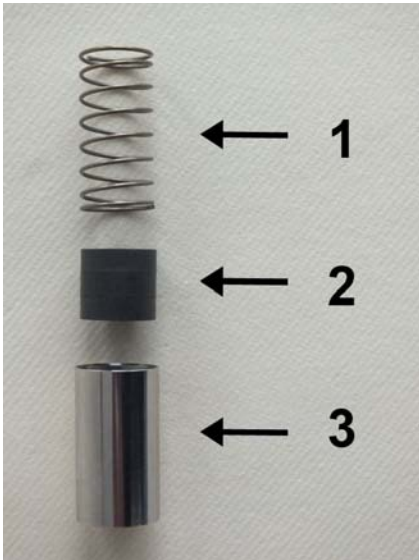

Fig. 47: Inner parts
- 6.** ➤ Insert spring (Fig. 47/1) with magnets (Fig. 47/2) into the float (Fig. 47/3), ensuring proper magnetic pole orientation (north pole toward device outlet).